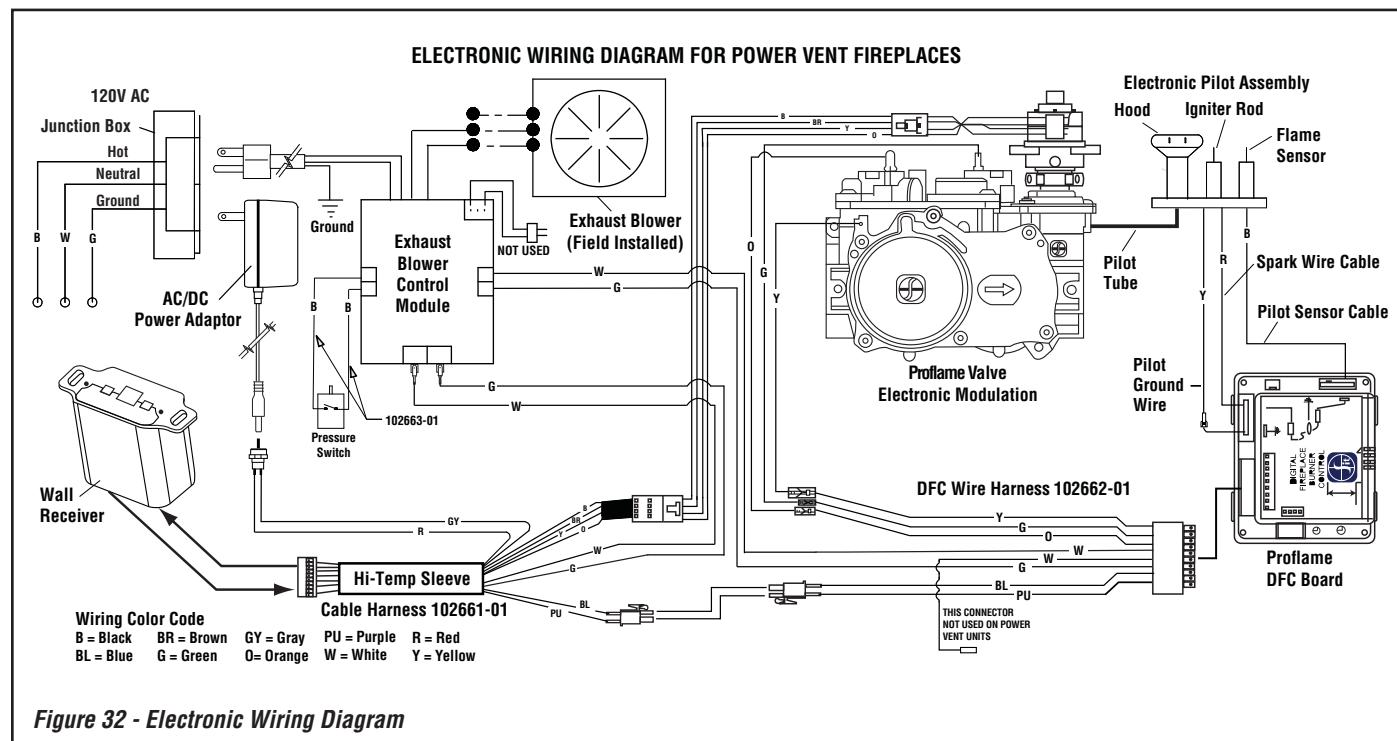

Figure 32 - Electronic Wiring Diagram
CAUTION: Ground supply lead must be connected to the wire attached to the green ground screw located on the outlet box. See Figures 32 and 33 on Page 24. Failure to do so will result in a potential safety hazard. The appliance must be electrically grounded in accordance with local codes or, in the absence of local codes, the National Electrical Code, ANSI/NFPA 70-latest edition (In Canada, the current CSA C22.1 Canadian Electrical Code).
Wiring: Fireplace (See Figures 32 and 33 on Page 24)
- Refer to **Figure 32 on Page 24** and install the electrical hardware on the fireplace end of the Romex wiring. Male terminals (#10) on the Black and White wires, and ring terminals (#9) on the ground wire. The termination end of the Romex will be connected to the termination with wire nuts (not provided).